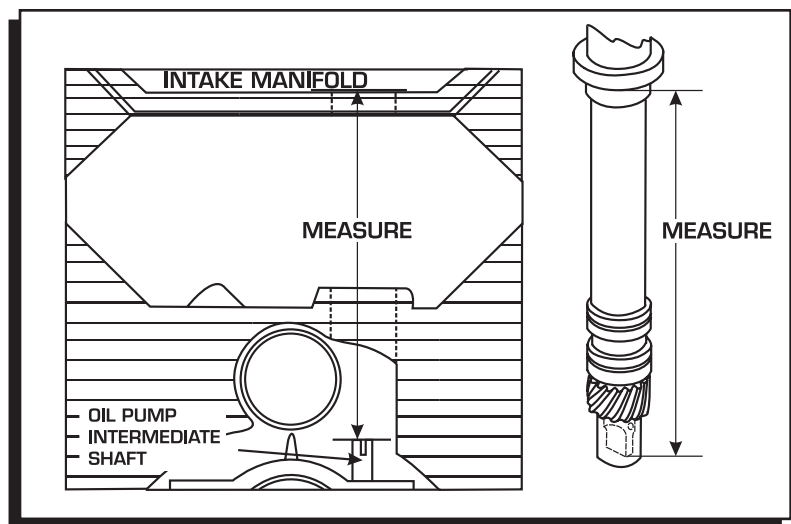

Figure 8 Measuring Oil Pump Shaft Overlap.
1. Measure the distance between the base of the slip collar to the tip of the distributor shaft (Figure 8).
2. Using a straight edge, measure the distance from the intake manifold distributor flange to the top of the oil pump intermediate shaft (Figure 8).